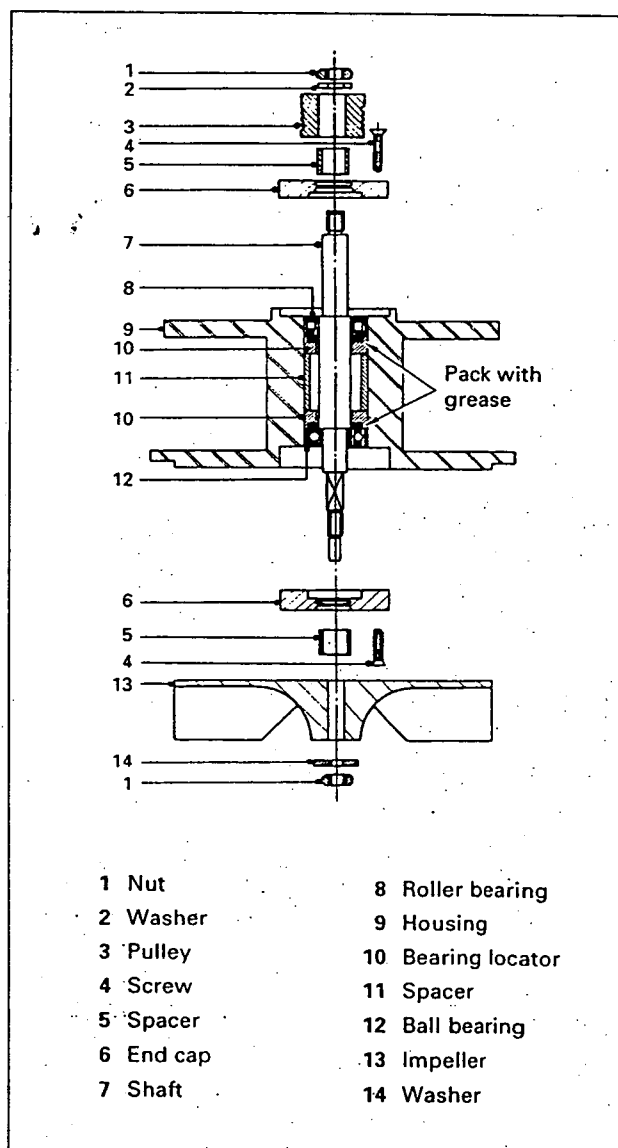

Fig. 31 Section through fan assembly
### Renewal of fan bearings (see Fig. 31)
- 14 Repack with Shell Alvania ET3 grease (or equivalent) as shown in Fig. 31.